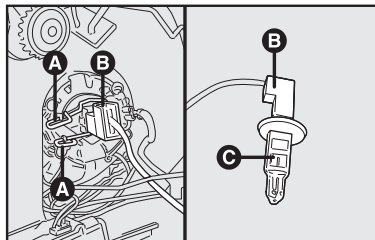

fig. 21
- 2) Desengatar a mola **A-fig. 21**, retirar o conector **B** e remover a lâmpada **C**.